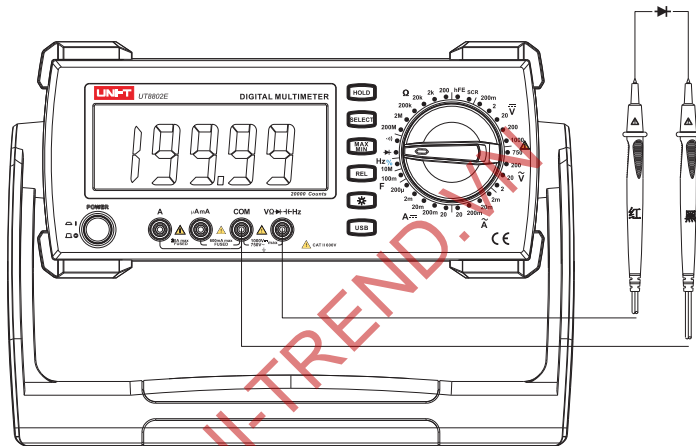
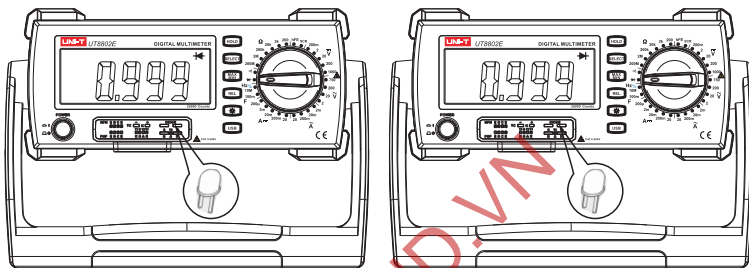

Figure 8
Figure 9
## 8. Measurement of Diode (see Figure 8, Figure 9)
1. Insert adaptor UT-S03A into where it is required to be loaded on the instrument (Figure 9).